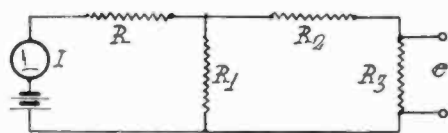

Fig. 2
3. Give the equation for e in the network of Fig. 2, in which all the values indicated by capital letters are known.